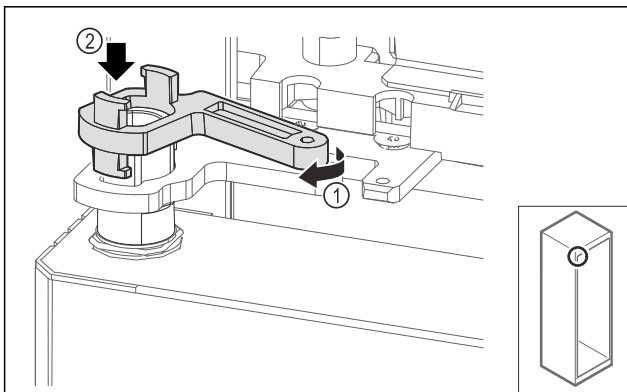

Fig. 66
- ▶ Turn the swap bearing block lock slightly and Fig. 66 (1) place it on the sleeve Fig. 66 (2).